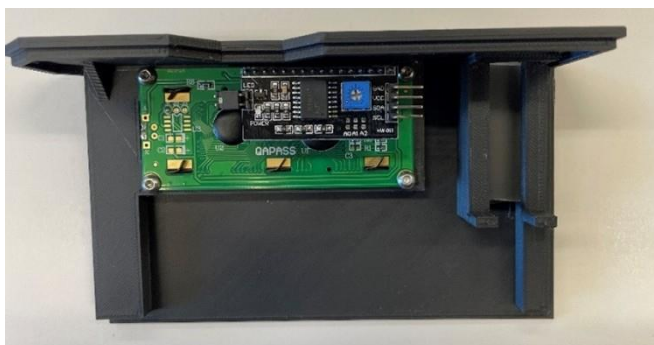

Figure 1.6- Screen and Filter in place.
- 5) Slot the filter into place and secure screen assembly to case with M3 screws (Figure 1.6).